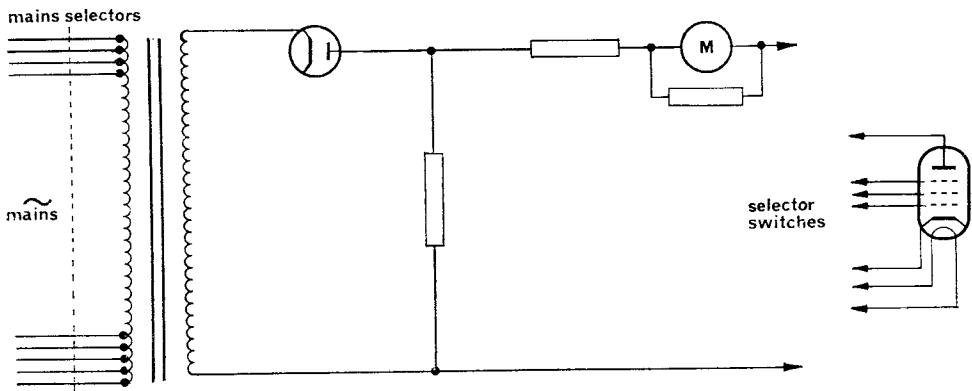

Fig. 3 Simplified circuit for CT160 insulation tests
23. **Insulation tests.** A simplified diagram of the circuits used for the insulation tests in the CT160 is shown in figure 3, and its resemblance to a simple series ohmmeter can easily be seen. The voltage and resistance values in the circuit are such that the first meter indication is given at 25 Megohms, with full scale deflection representing a short circuit. Before using the circuit to measure insulation the zero is adjusted with the instrument at 'set ~'. This puts a short circuit on the test terminals and the mains voltage selector is then adjusted to give full scale deflection (0 ohms). At this setting the circuit test voltages in the instrument are correct as they are all proportional to the voltage used for insulation tests. Insulation tests are then carried out in the order given in para. 22a by following the step-by-step instructions given in AP2537F. If any inter-electrode shorts are found, or the heater is open-circuit, the valve must be rejected. The minimum acceptable value of heater/cathode insulation depends on the circuit operating conditions in which the valve is used, but in general, valves with a heater/cathode resistance of less than 10 Megohms should be regarded as unserviceable.